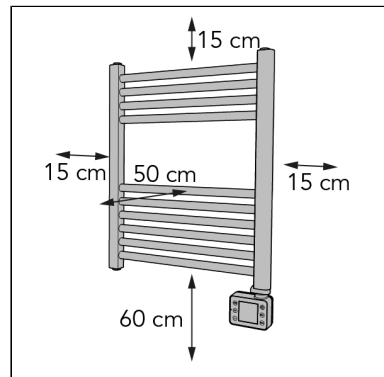

Figure 7.
2. Place the device with a minimum distance (Figure 7) of: